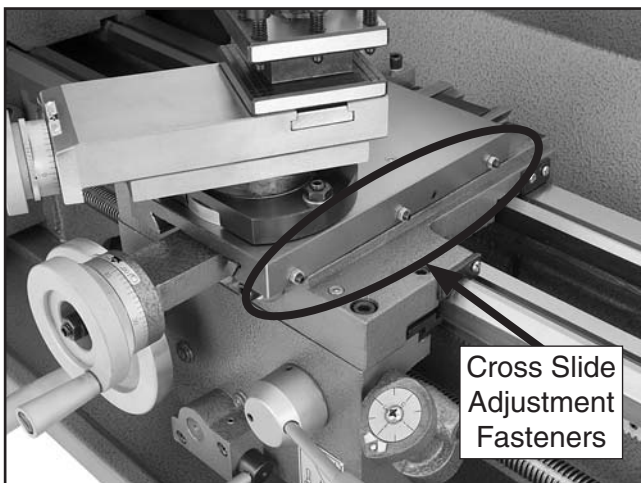

Figure 74. Cross slide gib adjustment hex nuts and set screws.
2. Loosen the three hex nuts on the side of the slide (see **Figures 74–75**).